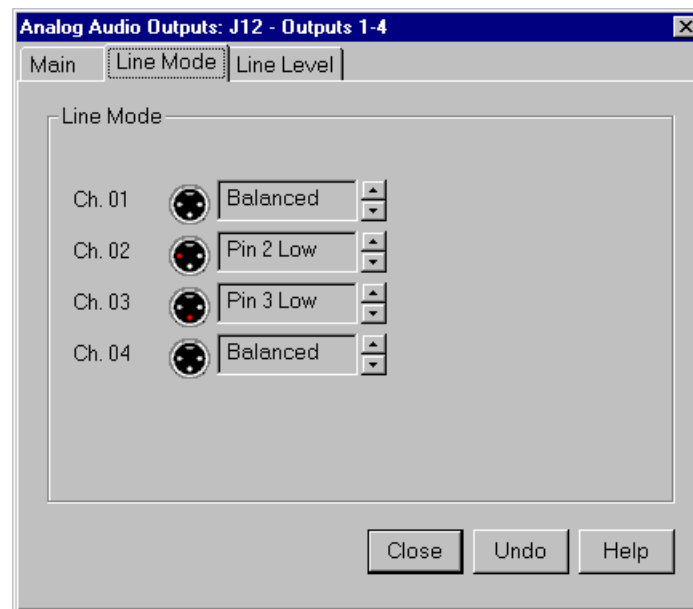

Figure 34. Analog Audio Output dialog box, Line Mode tab
1. In the Analog Audio Output dialog box, click the Line Mode tab (Figure 34).